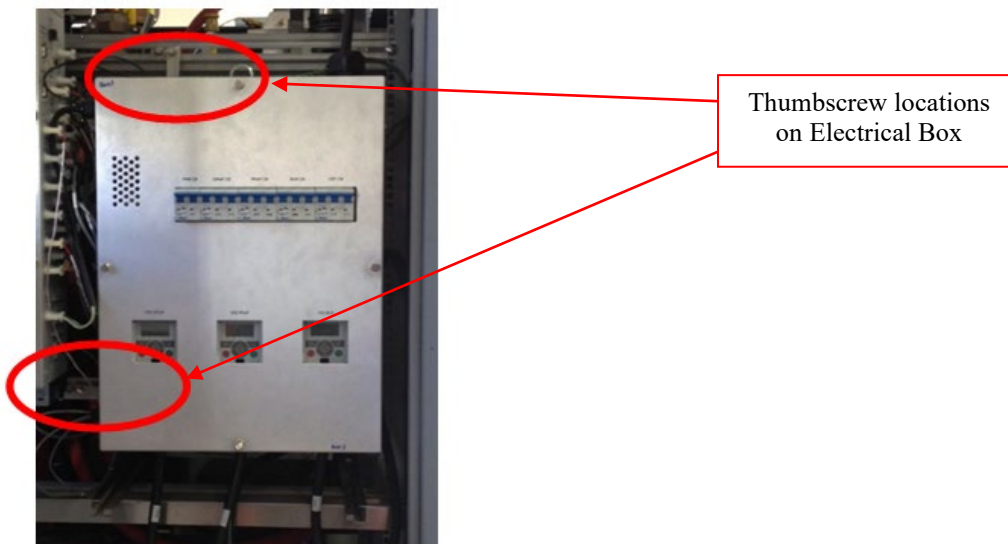

Figure 1 Electrical Box Thumbscrew location detail
9. Remove Lockout/Tagout and open Facility Supply and Return ball valves on top of system (Refer to Figure 1 in Removal procedure above) Refer to Boyd Manual #820-0190 (Refer to GE MR Service Safety Manual 5452735).
4. Pull Electrical Box forward by loosening 2 thumb screws to the left of the cabinet (top and bottom) securing it to the frame. Refer to Figure 1 on previous page.
9. Rotate Electrical Box back and secure thumbscrews to attach to frame using the thumbscrews. Refer to figure 1.